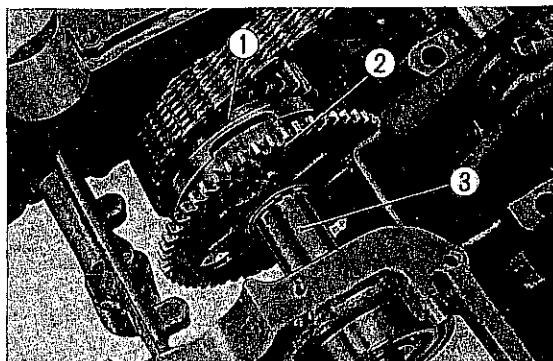
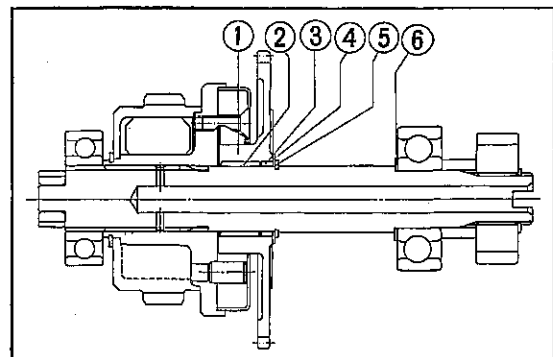

Fig. 151 ① Starting clutch
Fig. 166 ① Starting clutch gear
3. Position the starting clutch and starter gear as in Fig. 151, then drive the primary shaft in from the right to left. Use care in the needle bearing assembly sequence shown in Fig. 166.